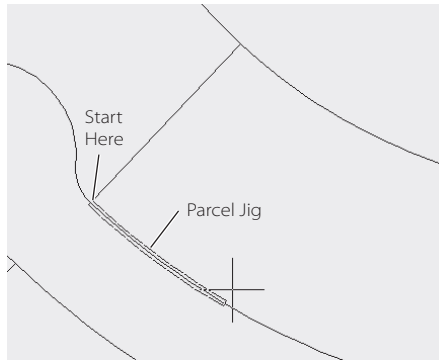

Figure 6.12
11. At the Select end point on frontage: prompt, use your endpoint osnap to select the intersection of the boundary parcel and the right-of-way parcel on the south side of the site, as shown in Figure 6.12.